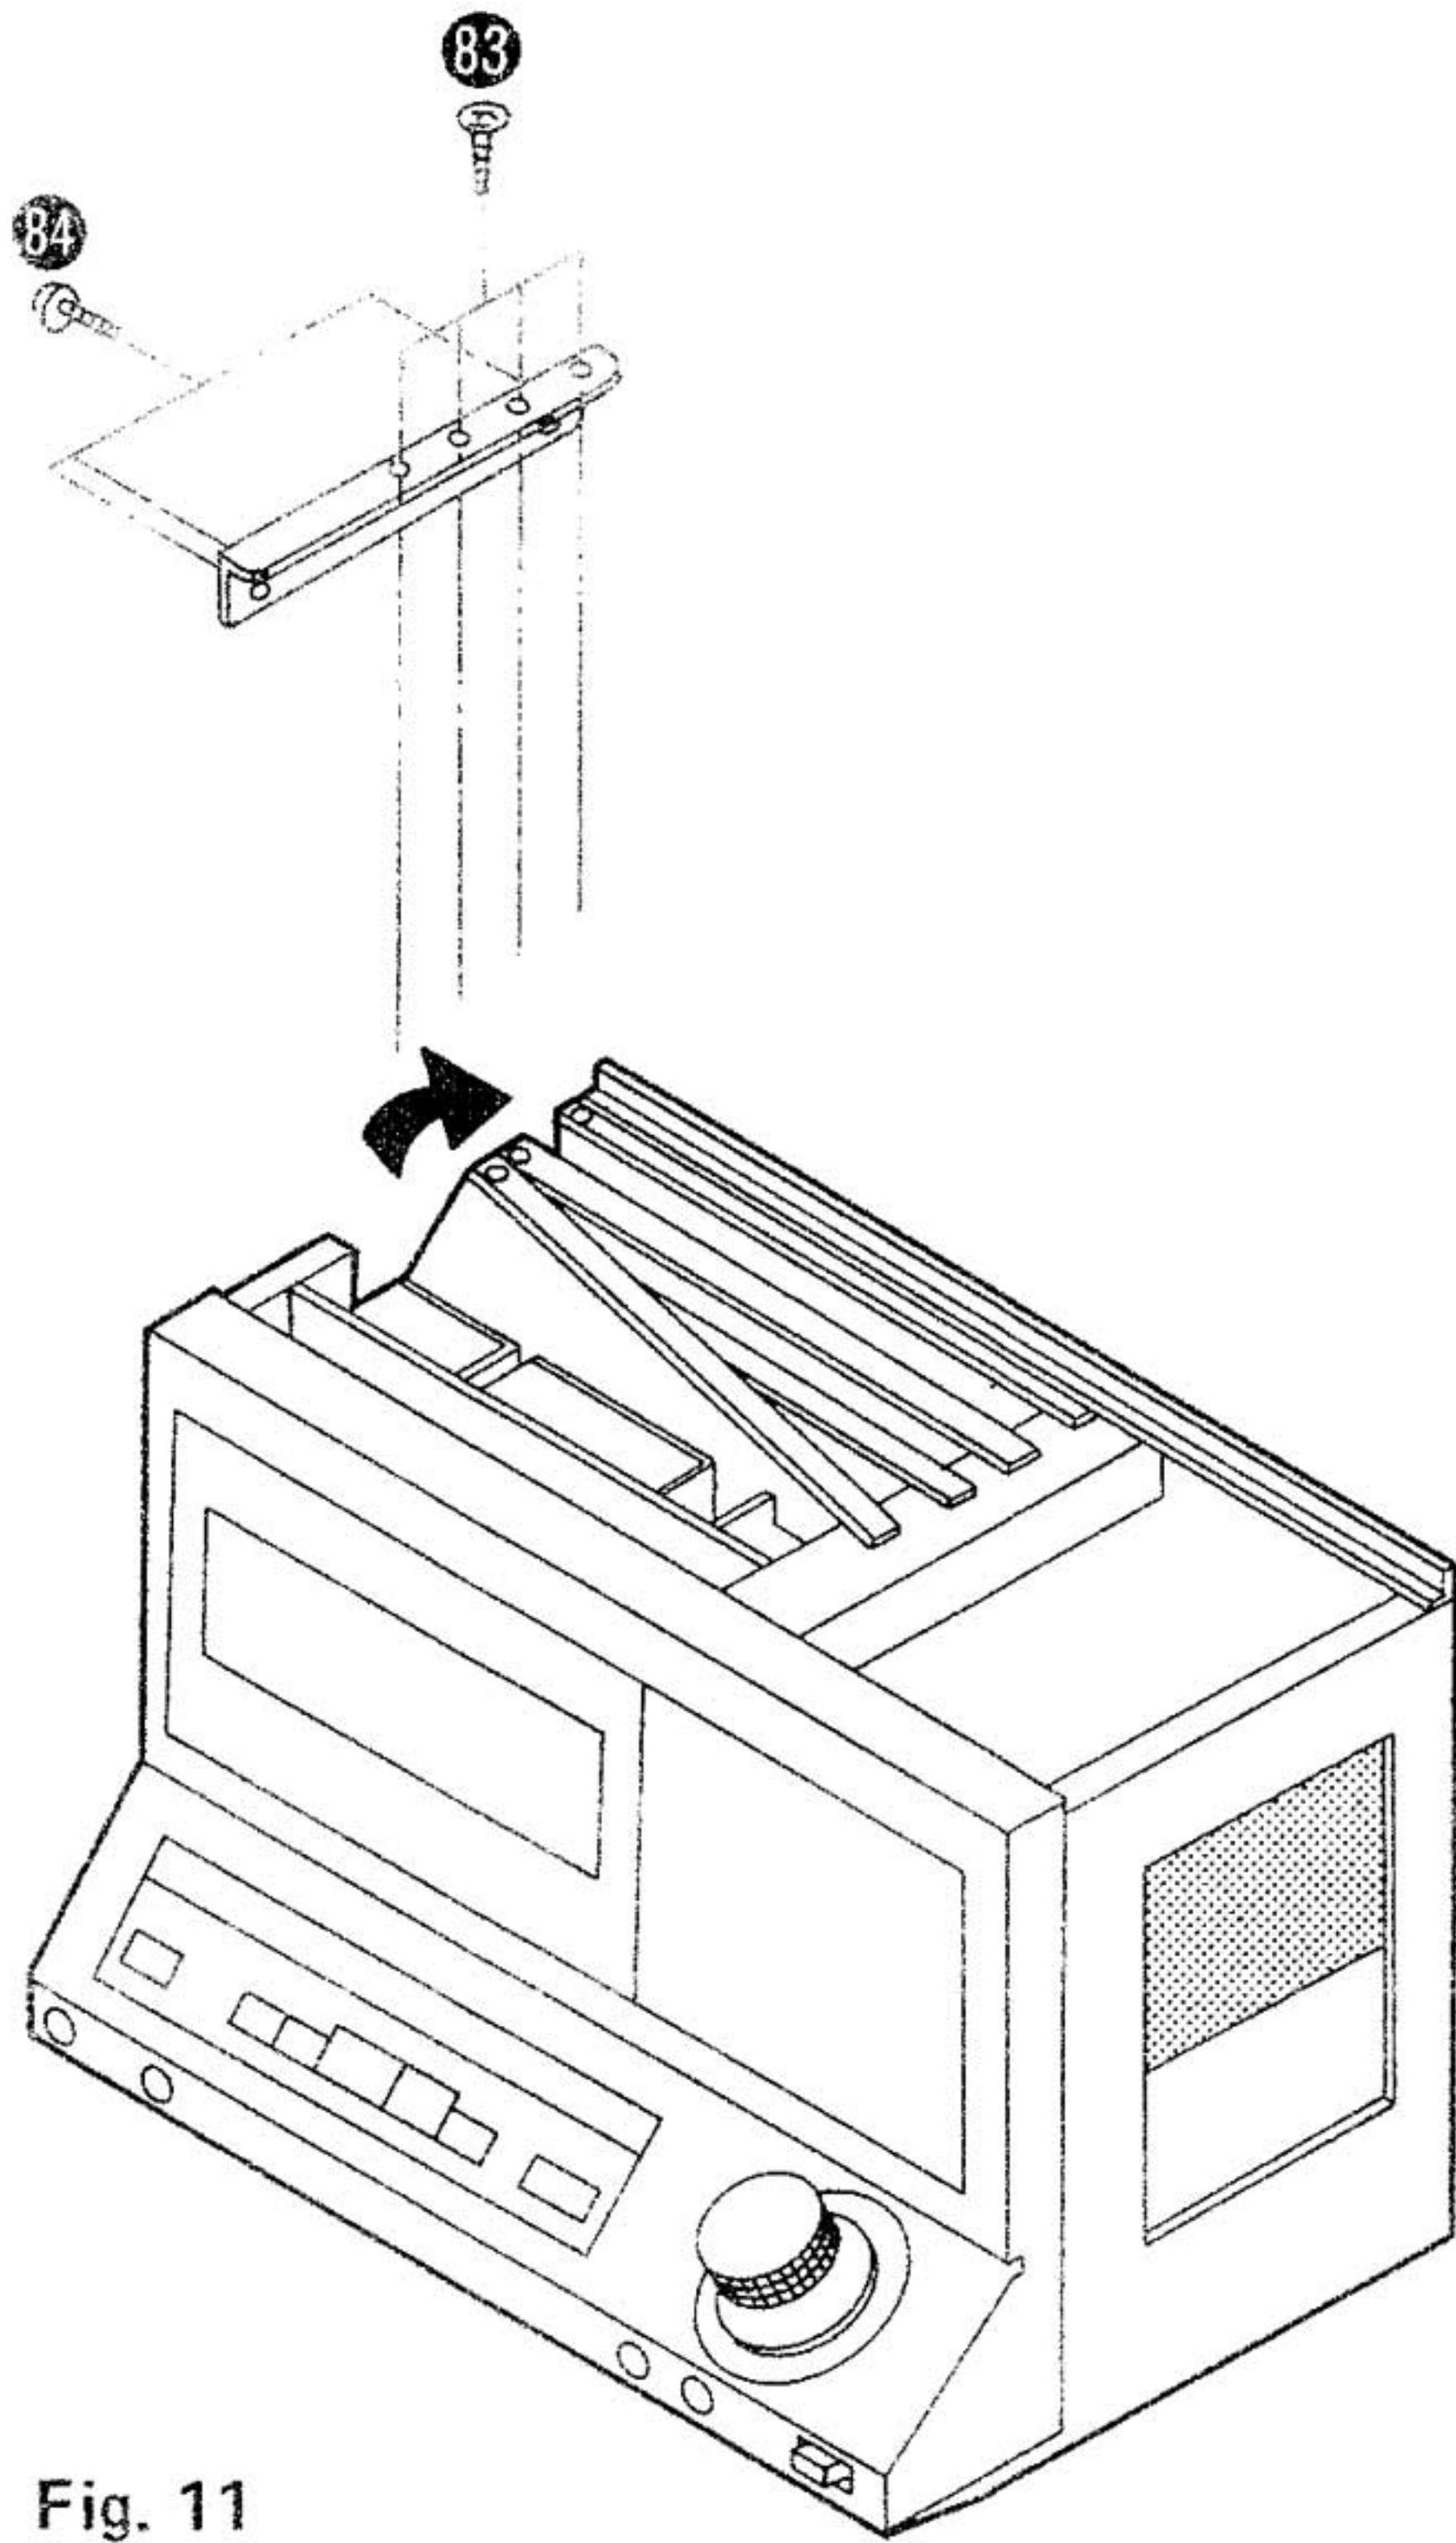

Fig. 11
2. Remove the 8 setscrews (Fig. 11 : 83 , 84 ) of the P.C.B. fixture.